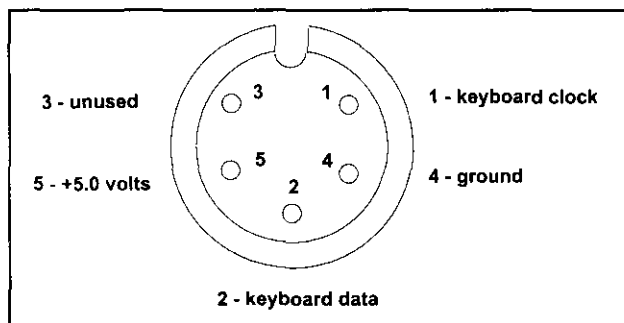

Figure 18-6. Keyboard Cable Jack for the PC
1. The keyboard microcontroller scans the keyboard matrix continuously. When a key is pressed (a make), it is identified and its scan code is sent serially to the motherboard through the keyboard cable (see Figure 18-6). The circuitry on the motherboard receives the serial bits, gets rid of the frame bits, and makes one byte (scan code) with the help of its serial-in-parallel-out shift register, then presents this 8-bit scan code to port A of the 8255 at I/O address of 60H, and finally activates IRQ1.